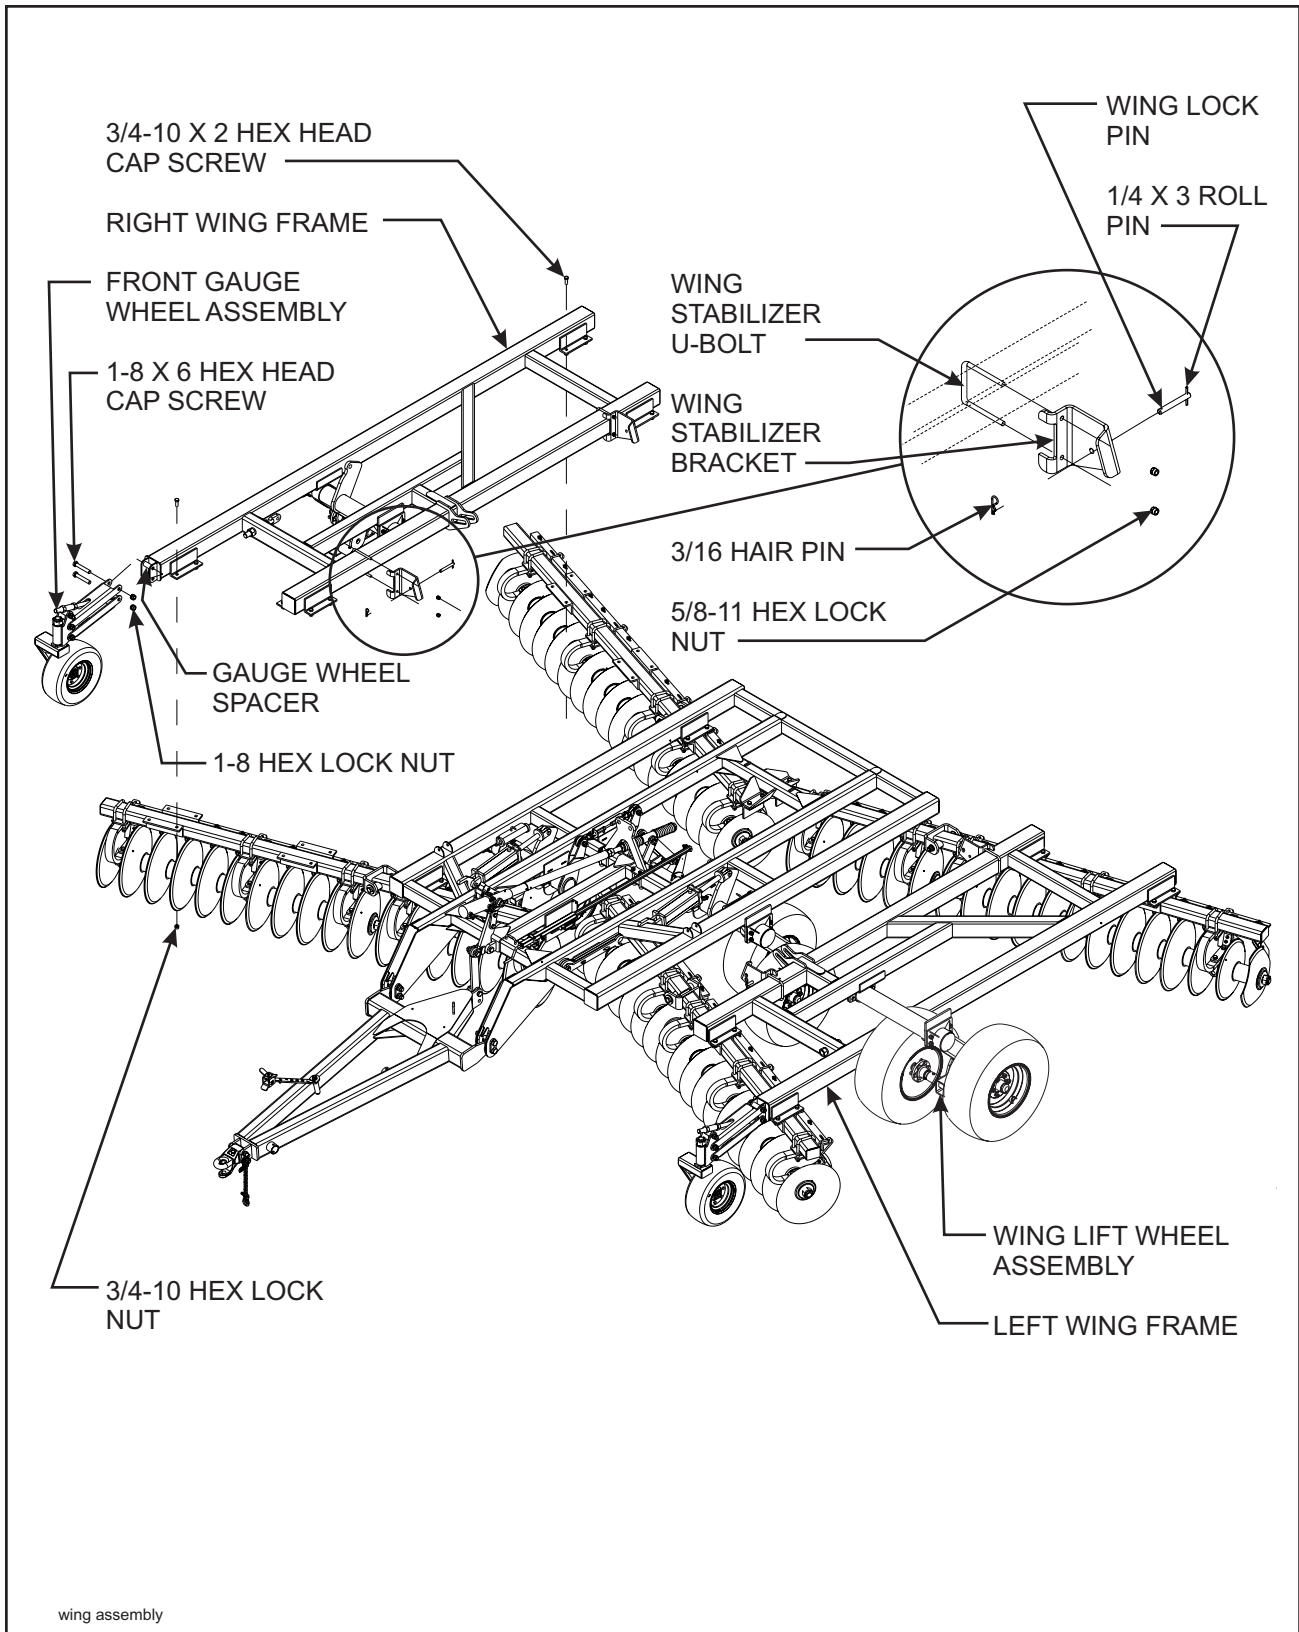

Figure 3-9 Wing Frame Installation
- 3-10.1** Place the wing frames on top of the wing gang assemblies and attach using 3/4-10 x 2 hex head cap screws and hex lock nuts (**See Figure 3-9**).